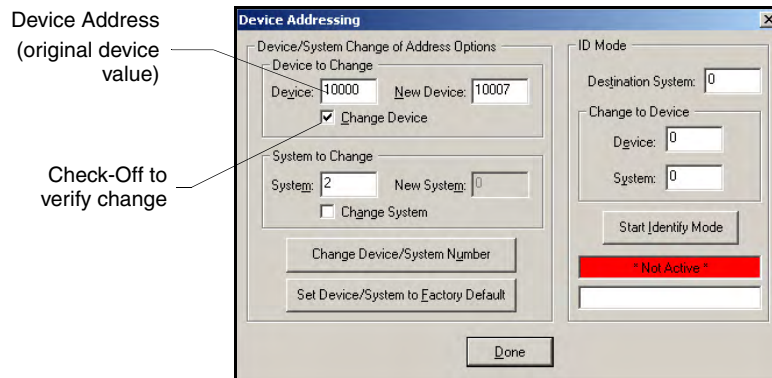

FIG. 25 Device Addressing dialog (changing the device value)
1. Access the Device Addressing dialog (FIG. 25) by either one of these two methods:
1. Access the Device Addressing dialog box (FIG. 25 on page 40) by either one of these two methods: